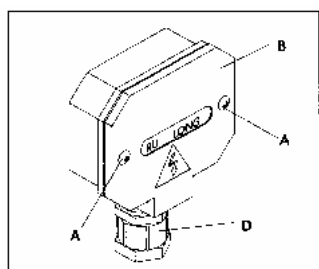

Fig. 2.3
1. Remove two screws (A) Fig.2.3, and remove terminal strip cover (B).
3. Insert power line through opening (D) Fig.2.3, of terminal strip box (G).